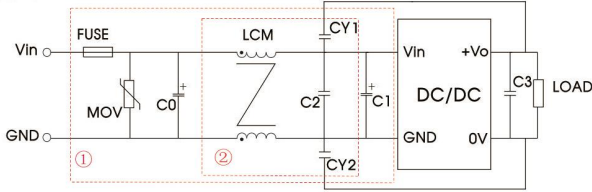

Fig. 6
Notes: Part ① in the Fig. 6 is used for EMC test and part ② for EMI test